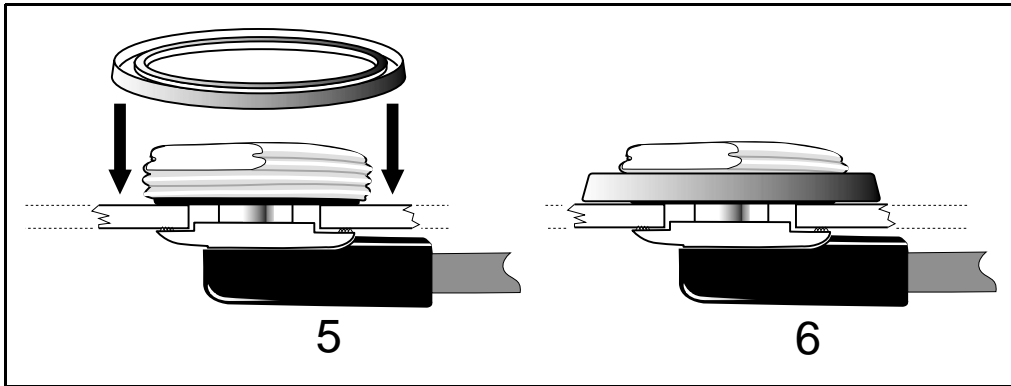

Figure 2.17 Attaching the Antenna to the Cable Assembly
5. Place the rubber gasket over the brass nut (see Figure 2.17).